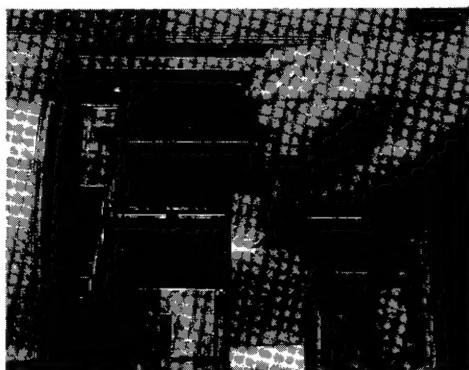

Fig. 1-1.
1. Tear the paper between the unused portion of the roll and the paper inlet (Fig. 1-1).
3. Tear the paper between the unused portion of the roll and the paper inlet (Fig. 1-1).